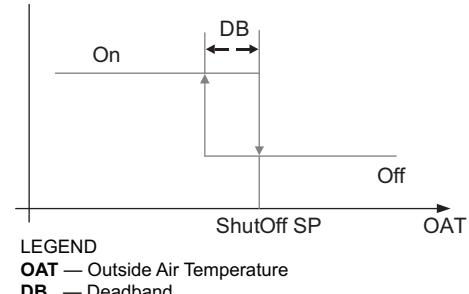

Fig. 77 — Hysteresis Settings
Hysteresis setting (DB) defaults to 2°F (−17°C). See Fig. 77.